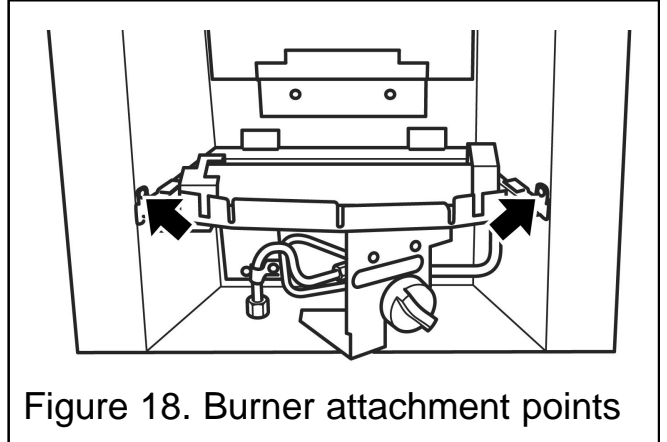

Figure 18. Burner attachment points
1. Refit the burner unit to the hotbox using the two screws removed previously. The burner securing points should be on the inside of the hotbox as shown in figure 18.